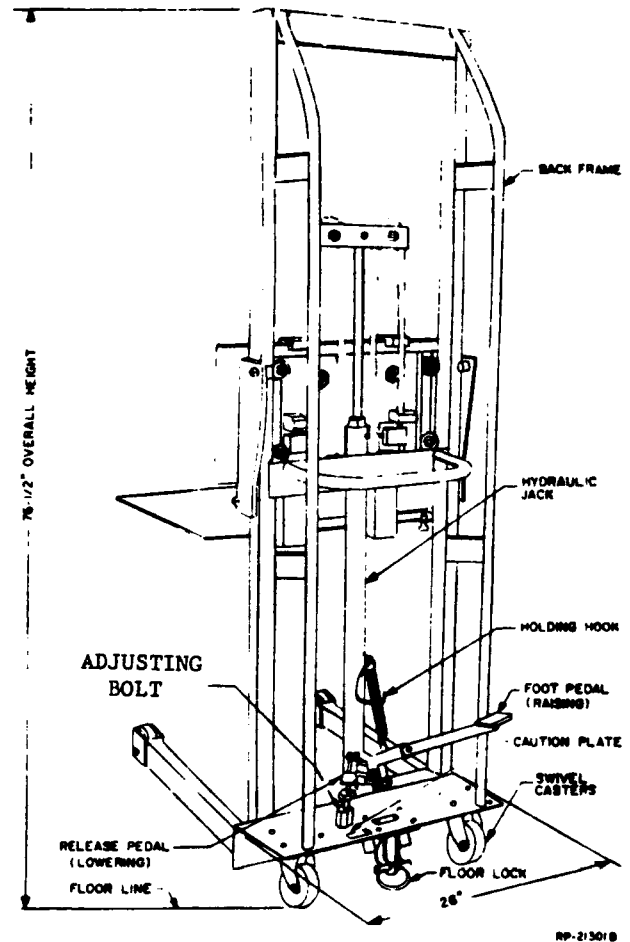

FIG. 2 REAR VIEW OF R-3870 MANUAL HYDRAULIC LIFT TRUCK
3.15 Floor Lock: The floor lock provides a positive brake in the operating position as shown in Figure 2, and must be locked to floor when loading and unloading the truck. Operate the foot lever on the floor lock to lock and release the floor lock. The floor lock must be secured on top of the plate during shipment to prevent damage.